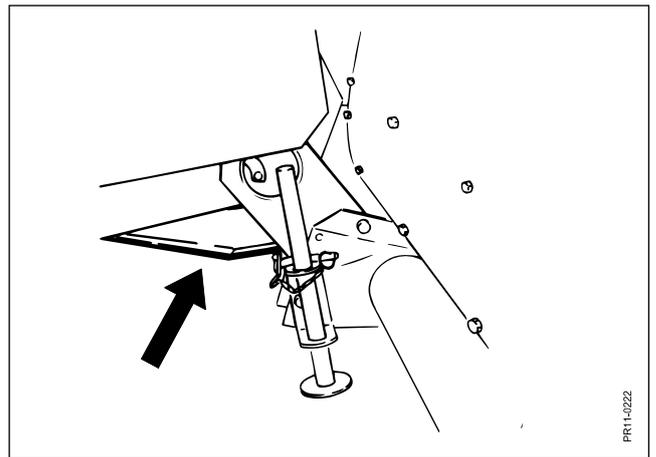

Fig. 5.4
**Fig. 5.4** A cover plate can be mounted under the feed rollers to reduce waste when harvesting maize, but it might be necessary to remove the plate if the crop is very wet.